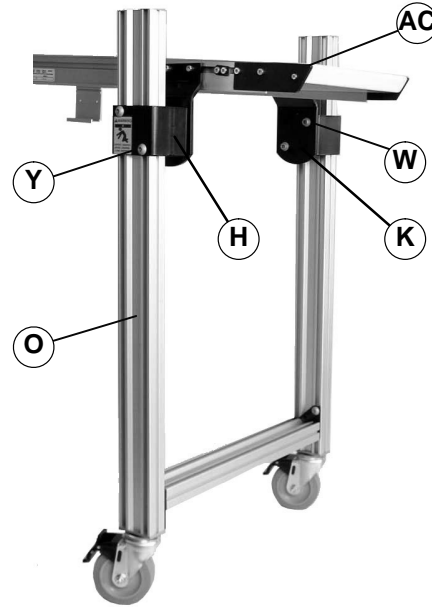

Figure 13
1. Support conveyor section (AC of Figure 13).
2. Loosen two flange socket head screws (W) on each pivot bracket (K).
3. Loosen two button head screws (Y) on each leg support (H).
4. Slide both leg supports (H) up or down on stand legs (O) to the required height. If necessary, adjust height of each leg support until conveyor is level from side to side.
<p>Failure to secure screws (Y of Figure 13) may cause conveyor sections to drop down causing severe injury.</p> <p>TIGHTEN SCREWS (Y) AFTER ADJUSTMENT.</p>
5. Tighten four button head screws (Y) to 17 ft-lb (22.5 N-m).
6. Tighten four flange socket head screws (W) to 24 ft-lb (33 N-m).